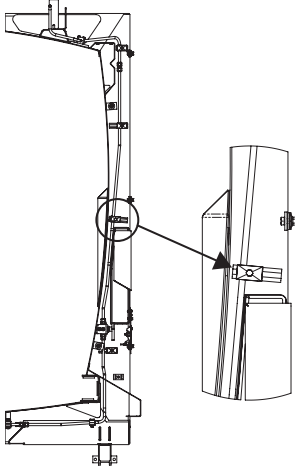

Figure 1 Stauff clamp location to shift CNG line as needed.
3. If necessary, loosen the called out Stauff® clamp (Figure 1) and move the CNG line toward body to avoid any contact with cover.